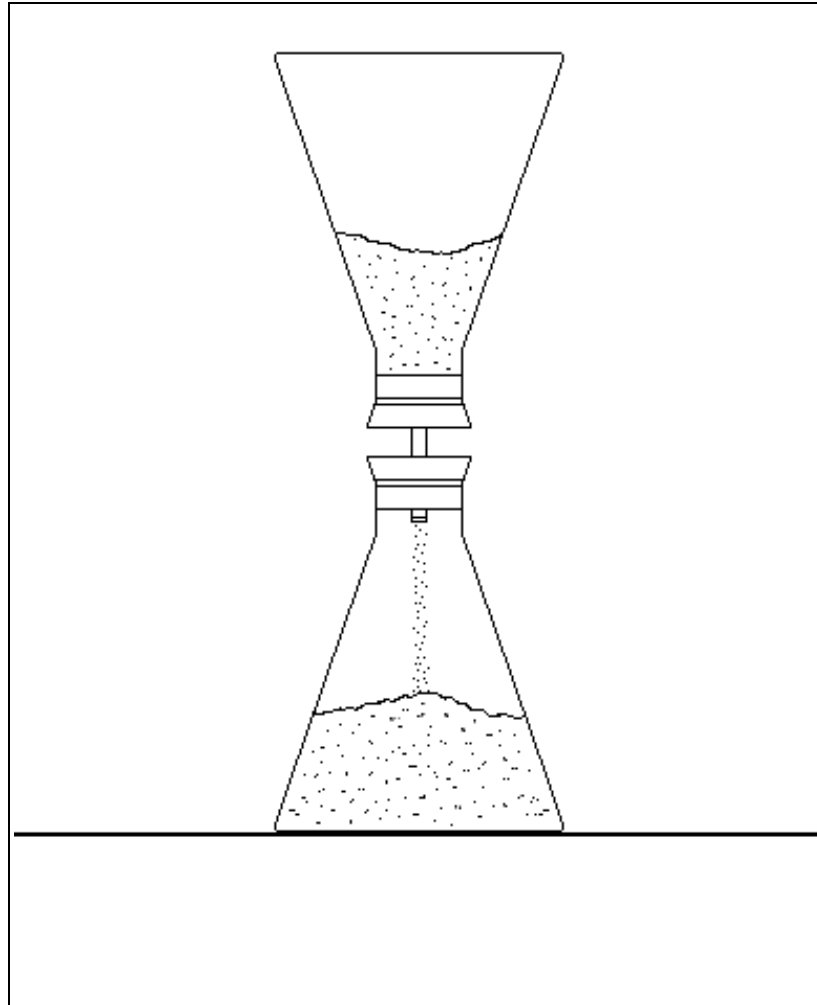

Figure 1
- 4.5 Invert the entire two flask assembly (figure 1) to allow the beads to flow until the upper flask is empty. The flask may be gently tapped to initially start the flow of beads after which the beads should flow without further agitation.